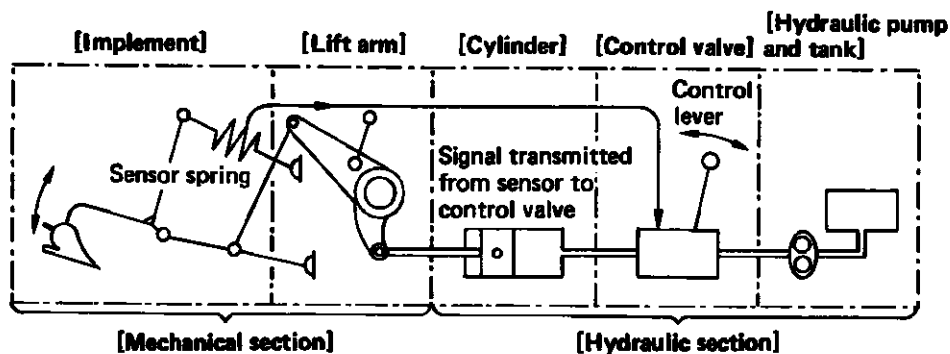

Fig. 4
1) The draft force applied to the implement is transmitted to the top link of the 3-point link mechanism shown in Fig. 4, causing the sensor spring to be compressed.